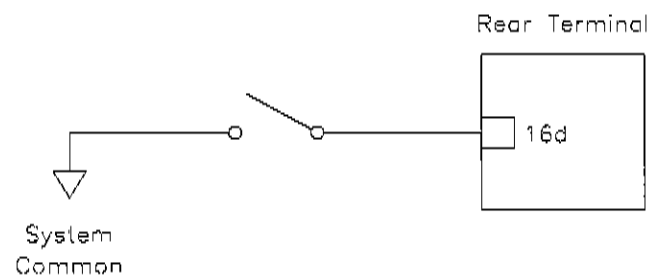

Figure 9
The Card Test Input is provided so that the user can access the Card Test feature remotely. One end of a normally open SPST switch is connected to this termination and the other end is connected to system common. To activate the feature, simply press and hold the switch for as long as the test time is to be run (runtime is 3 or 10 seconds, software selectable). Figure 9 is a block diagram that shows the switch connections for the Card Test feature.
- The Card Test input consists of a single termination for remote testing of the Model TA202A's functions. For detailed information on the Card Test, refer to figure 9 on page 11 of this manual.
The Card Test Input is provided so that the user can access the Card Test feature remotely. One end of a normally open SPST switch is connected to this termination and the other end is connected to system common (see figure 9 on page 11).